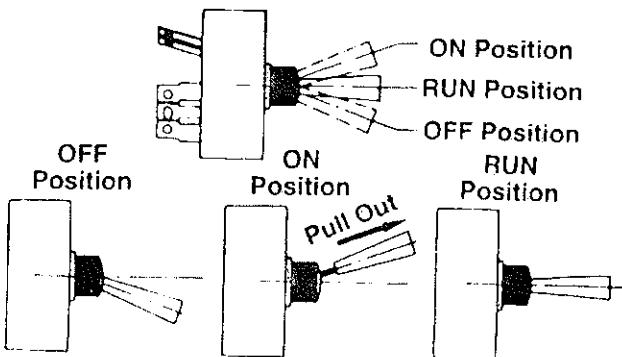

FIGURE 11
To engage the PTO switch, pull knob out and lift up to the ON position, then release. The knob will return to RUN position. See figure 11.
3. **Models with electric clutch:** Place the PTO switch in the OFF position. See figure 11